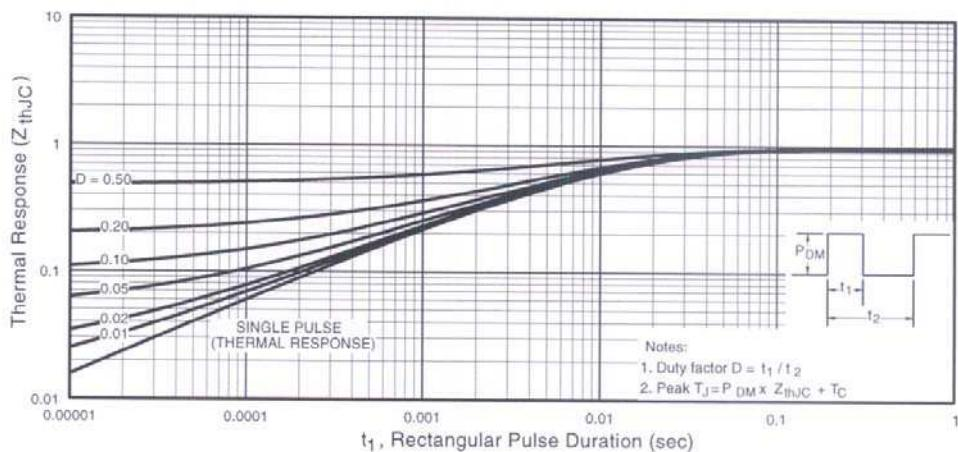

Fig 11. Maximum Effective Transient Thermal Impedance, Junction-to-Case
① Repetitive rating; pulse width limited by max. junction temperature. (See fig. 11)
④ Pulse width $\leq 300\mu\text{s}$; duty cycle $\leq 2\%$.
② Starting $T_J = 25^\circ\text{C}$, $L = 1.7\text{mH}$